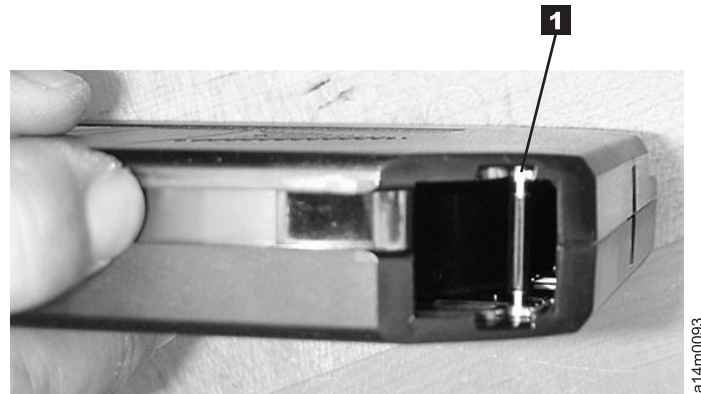

Figure 61. Leader pin in proper position in the 3592 cleaning cartridge (the cartridge door is manually retracted)
**Attention:** Insert only clean and undamaged cleaning cartridges into a tape system. Before you insert a cartridge into a drive or storage slot, inspect the cartridge for damage or debris. **Damaged or dirty cartridges can reduce system reliability and cause the loss of recorded data.** If debris appears on the cartridge, wipe the outside surfaces with a lint-free cloth lightly moistened with water. Do not allow any liquid to contact the tape. Ensure that all cartridge surfaces are dry and that the leader pin is in place (see **1** in Figure 61 on page 256) before you load the cartridge.
Ensure that all cartridge surfaces are dry and that the leader pin is in place (see **1** in Figure 61) before you load the cartridge.